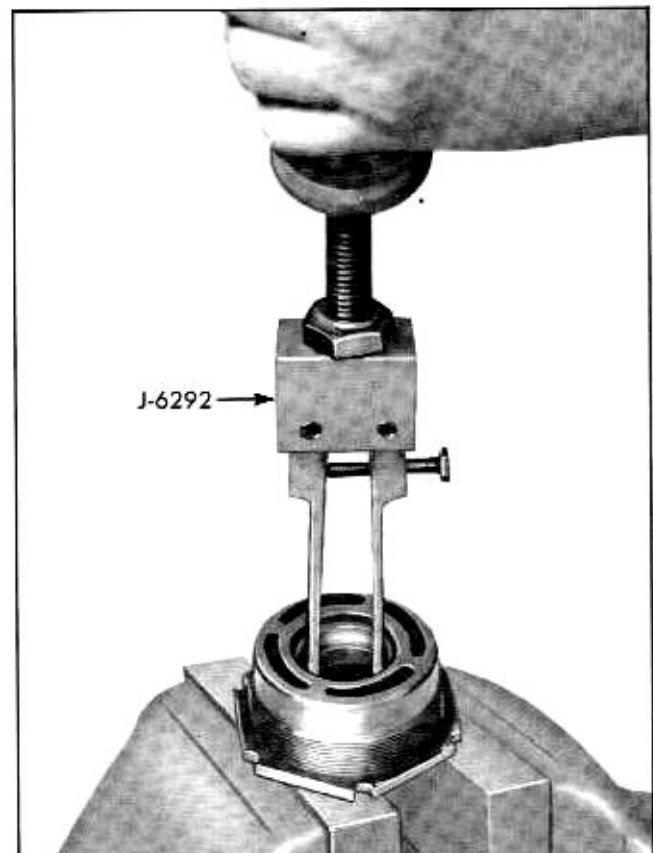

Fig. 9-23 Removing Lower Bearing Cup
3. Place worm bearing adjuster in vise and remove lower bearing cup with Tool J-6292 (Fig. 9-23).